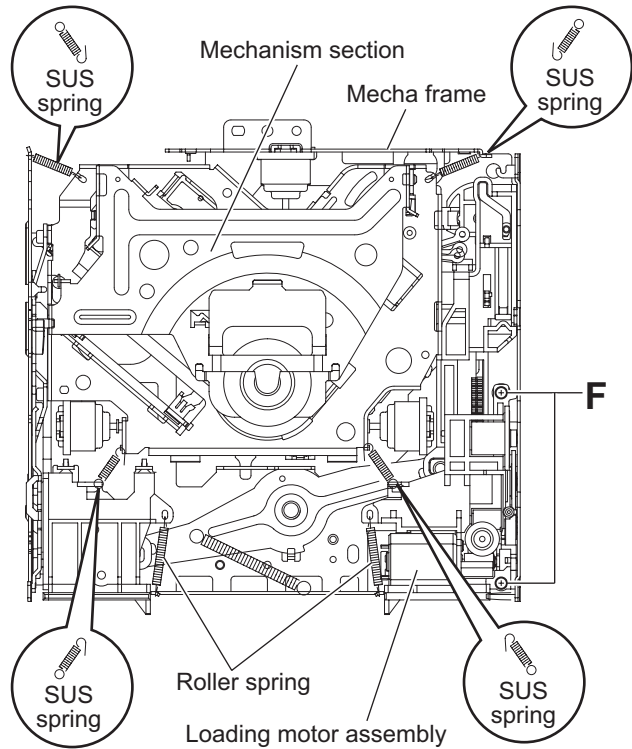

Fig.9
3.2.5 Removing the mechanism section (See Fig.9 and 10)
- (1) From the top side of the CD MECHANISM assembly, remove the two screws **F** attaching the loading motor assembly. (See Fig.9.)
- (2) Remove the two roller springs on the top side of the mecha frame. (See Fig.9.)
- (3) Remove the four SUS springs on the top side of the mecha frame. (See Fig.9.)